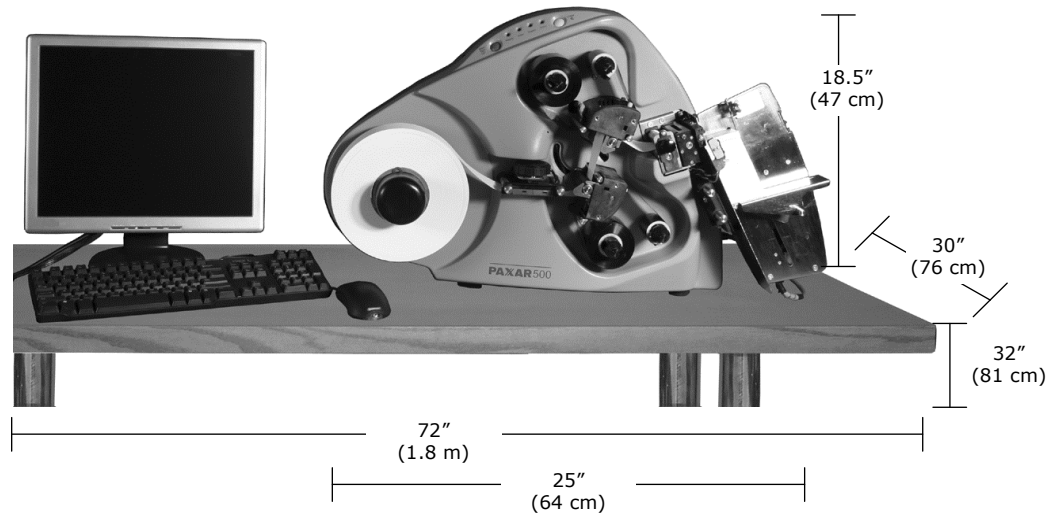

Figure 1. Recommended Workstation Layout
The printer weighs 45 pounds (20.5 Kg) and requires a table of sufficient quality and strength to handle this load. The AVERY DENNISON SNAP 500 printer requires an area with the approximate dimensions of 72" wide x 30" deep x 32" high (1.8 m x 76 cm x 81 cm). The host PC (if used) and any printer options will increase the required area. AVERY DENNISON recommends using an industrial type worktable. Refer to Figure 1 below.
1. Choose an area that maintains optimum flow of your product and allows for the operator's comfort. Consider the physical demands being placed on the operator with respect to height of the table on which the printer will be placed, the amount of space around the printer, and the operator's accessibility to the printer. Refer to Figure 1.
1. Look at the line voltage level shown in the window on the back of the printer (see Figure 1). If the number in the window matches the appropriate voltage for your location, you can proceed with setting up your printer.
- In the U.S.A., call (570) 888-6641.